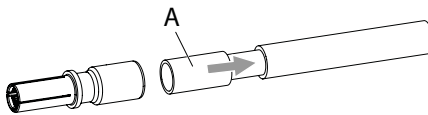

Fig. 31:
1. Push the reducing bushing (A) as shown in Fig. 31 onto the bare cable braid and push the cable braid together with the reducing bushing into the connection area of the contact.